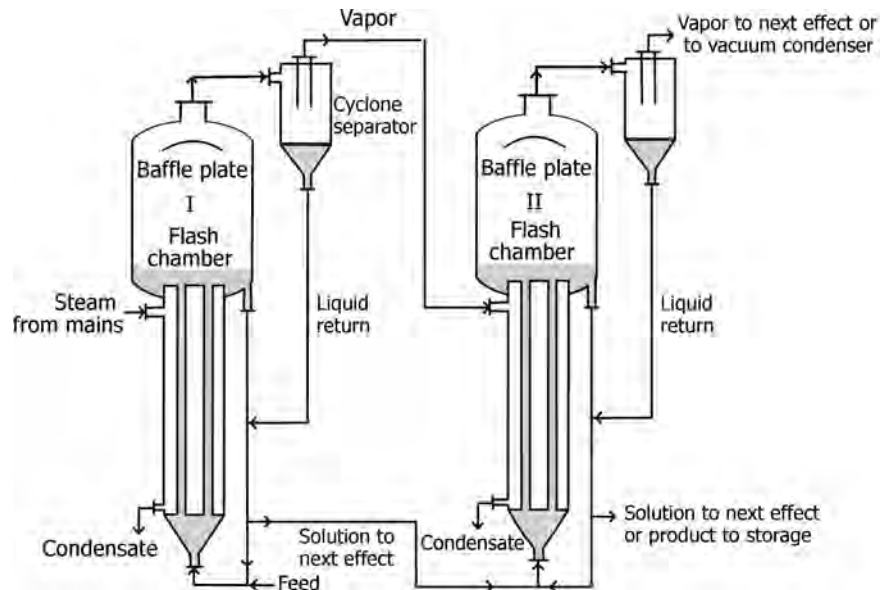

FIGURE 11.23 Double effect evaporator with forward feed operation.
- Figure 11.23 illustrates a double effect evaporator with forward feed operation.